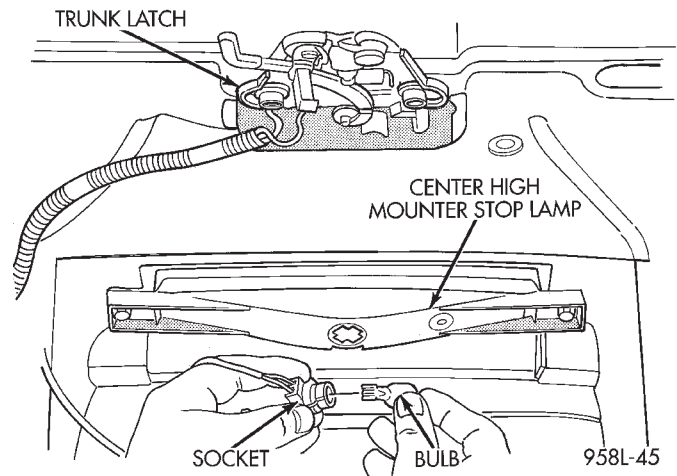

Fig. 6 Center High Mounted Stop Lamp Bulb
- (1) Release decklid latch and open decklid.
- (2) Rotate socket counterclockwise one quarter turn.
- (3) Pull socket from back of lamp.
- (4) Pull bulb from socket (Fig. 6).